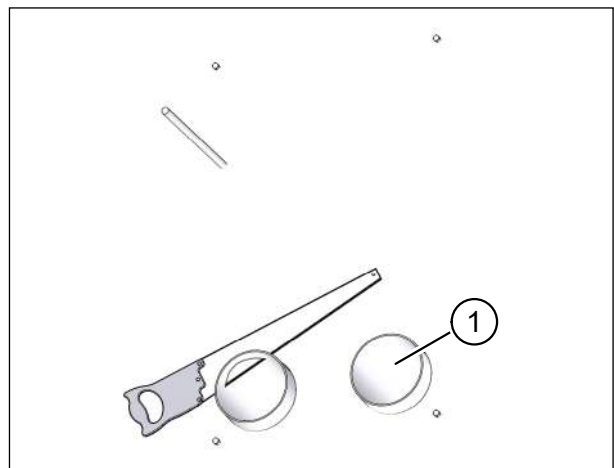

Fig. 29: Cutting ventilation pipes on internal wall to length
- ▶ Cut the ventilation pipes (item 1 in Fig. 29) to length on the internal wall so that they end flush with the internal plaster.